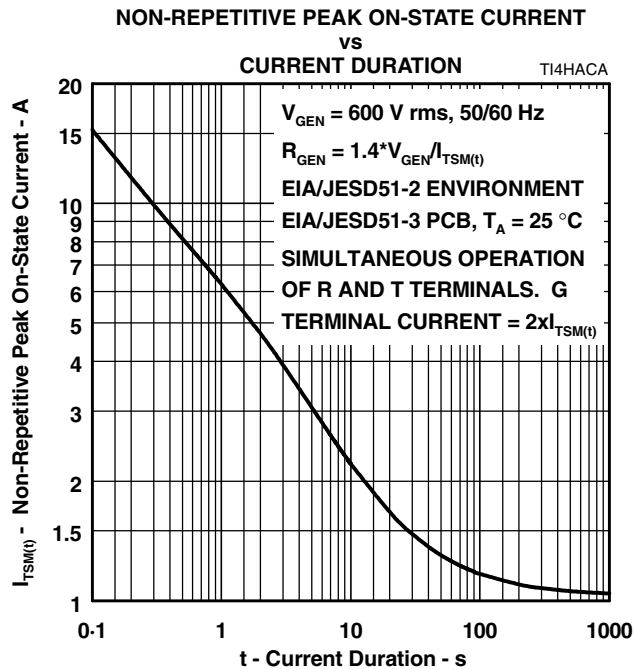

Figure 8.
5. EIA/JESD51-2 environment and EIA/JESD51-3 PCB with standard footprint dimensions connected with 5 A rated printed wiring track widths. See Figure 8 for the current ratings at other durations. Figure 8 shows the R and T terminal current rating for simultaneous operation. In this condition, the G terminal current will be $2 \times I_{TSM(t)}$, the sum of the R and T terminal currents. Derate current values at -0.61 %/ $^\circ\text{C}$ for ambient temperatures above 25 $^\circ\text{C}$.
The protector can withstand the G return currents applied for times not exceeding those shown in Figure 8. Currents that exceed these times must be terminated or reduced to avoid protector failure. Fuses, PTC (Positive Temperature Coefficient) resistors and fusible resistors are overcurrent protection devices which can be used to reduce the current flow. Protective fuses may range from a few hundred milliamperes to one ampere. In some cases, it may be necessary to add some extra series resistance to prevent the fuse opening during impulse testing. The current versus time characteristic of the overcurrent protector must be below the line shown in Figure 8. In some cases, there may be a further time limit imposed by the test standard (e.g. UL 1459 wiring simulator failure).